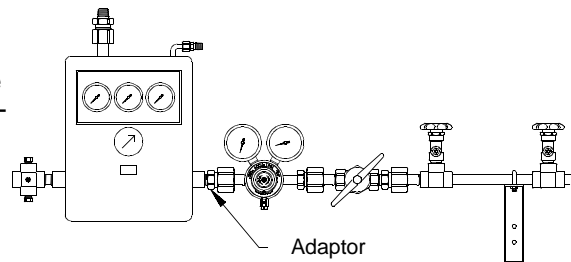

FIGURE 6
NOTE: If using a single bank LC manifold with high pressure secondary cylinders as the right bank, the following modifications to the manifold unit are necessary. (see Figure 6)
2. Refer to Figure 6 for the schematic showing the location for additional components and the location where the manifold tees into the system.